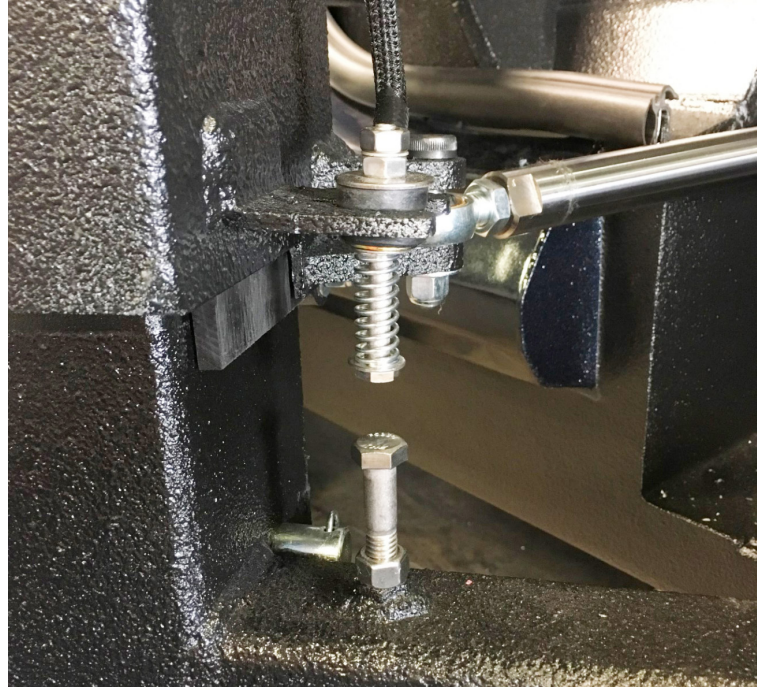

FIGURE 1
4. Weld the spring switch bracket to the lift post as shown in *Figure 1*.